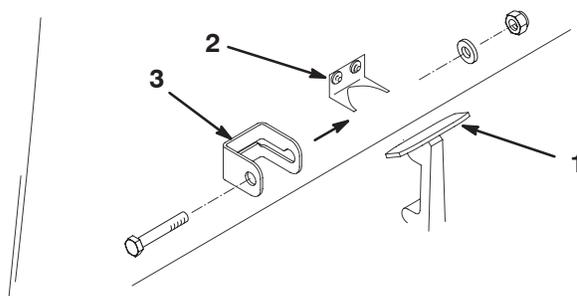

Figure 4
- Unhook the hood latch from the hood latch bracket (Fig. 4).
- Slide the hood lock bracket onto the latch (Fig. 4).
- Hook the latch onto the hood latch bracket (Fig. 4).
- Insert a bolt (1/4 x 1-1/2 in.) through the hood lock bracket and secure it with a flat washer and locknut (Fig. 4).